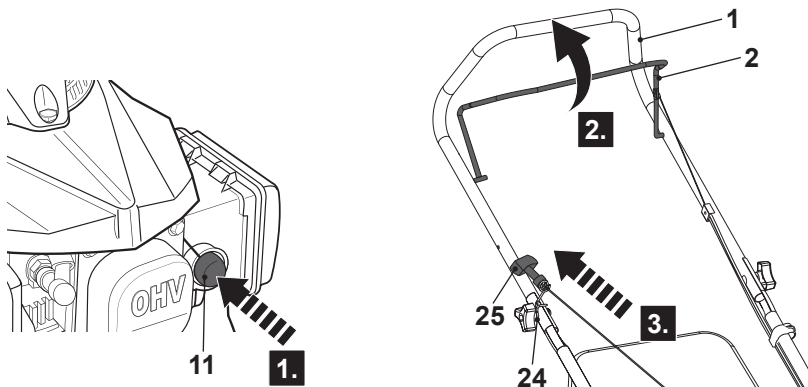

Fig. 16
1. Press the primer (11) 3 times (Fig. 16, step 1).
2. Stand behind the upper handle bar (1).
3. Pull back the brake lever (2) and hold it against the upper handle bar (1) (Fig. 16, step 2).
4. Pull the recoil starter handle (25) lightly until you feel resistance then pull it rapidly. Do it repeatedly until the engine starts (Fig. 16, step 3).
5. Rest the recoil starter handle (25) onto the hook (24) located on the right-hand side of the upper handle bar (1).